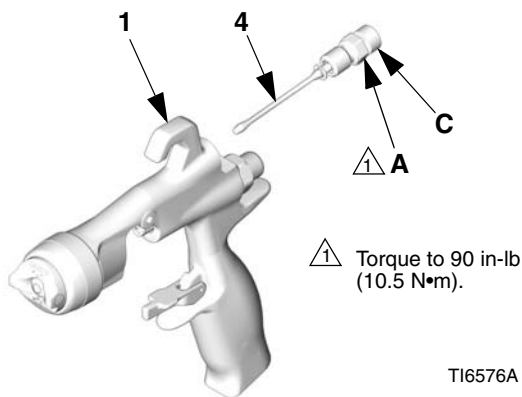

FIG. 34
2. Unscrew the fan valve packing nut (A) from the back of the gun body (1). Slide the fan valve assembly (4) out of the gun body. See FIG. 34.
3. Before reinstalling, turn the pattern adjustment valve (C) of the replacement fan valve assembly (4) completely counterclockwise to prevent damage to the seat (5c). Install the replacement fan valve assembly into the gun body (1). Screw the packing nut (A) into the gun body and torque to 90 in-lb (10.5 N•m).